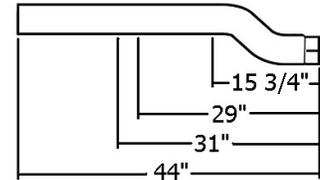

Figure 3
2. Install the **Hanger Band Clamp** and **Muffler** over the **Extension Pipe**. Install **Hanger Band Clamp** into the OEM rubber hanger at this position. Install the **“T” Hanger Band Clamp** into the two OEM rubber hangers located above the outlet of the **Muffler**. **See Figure 3.**